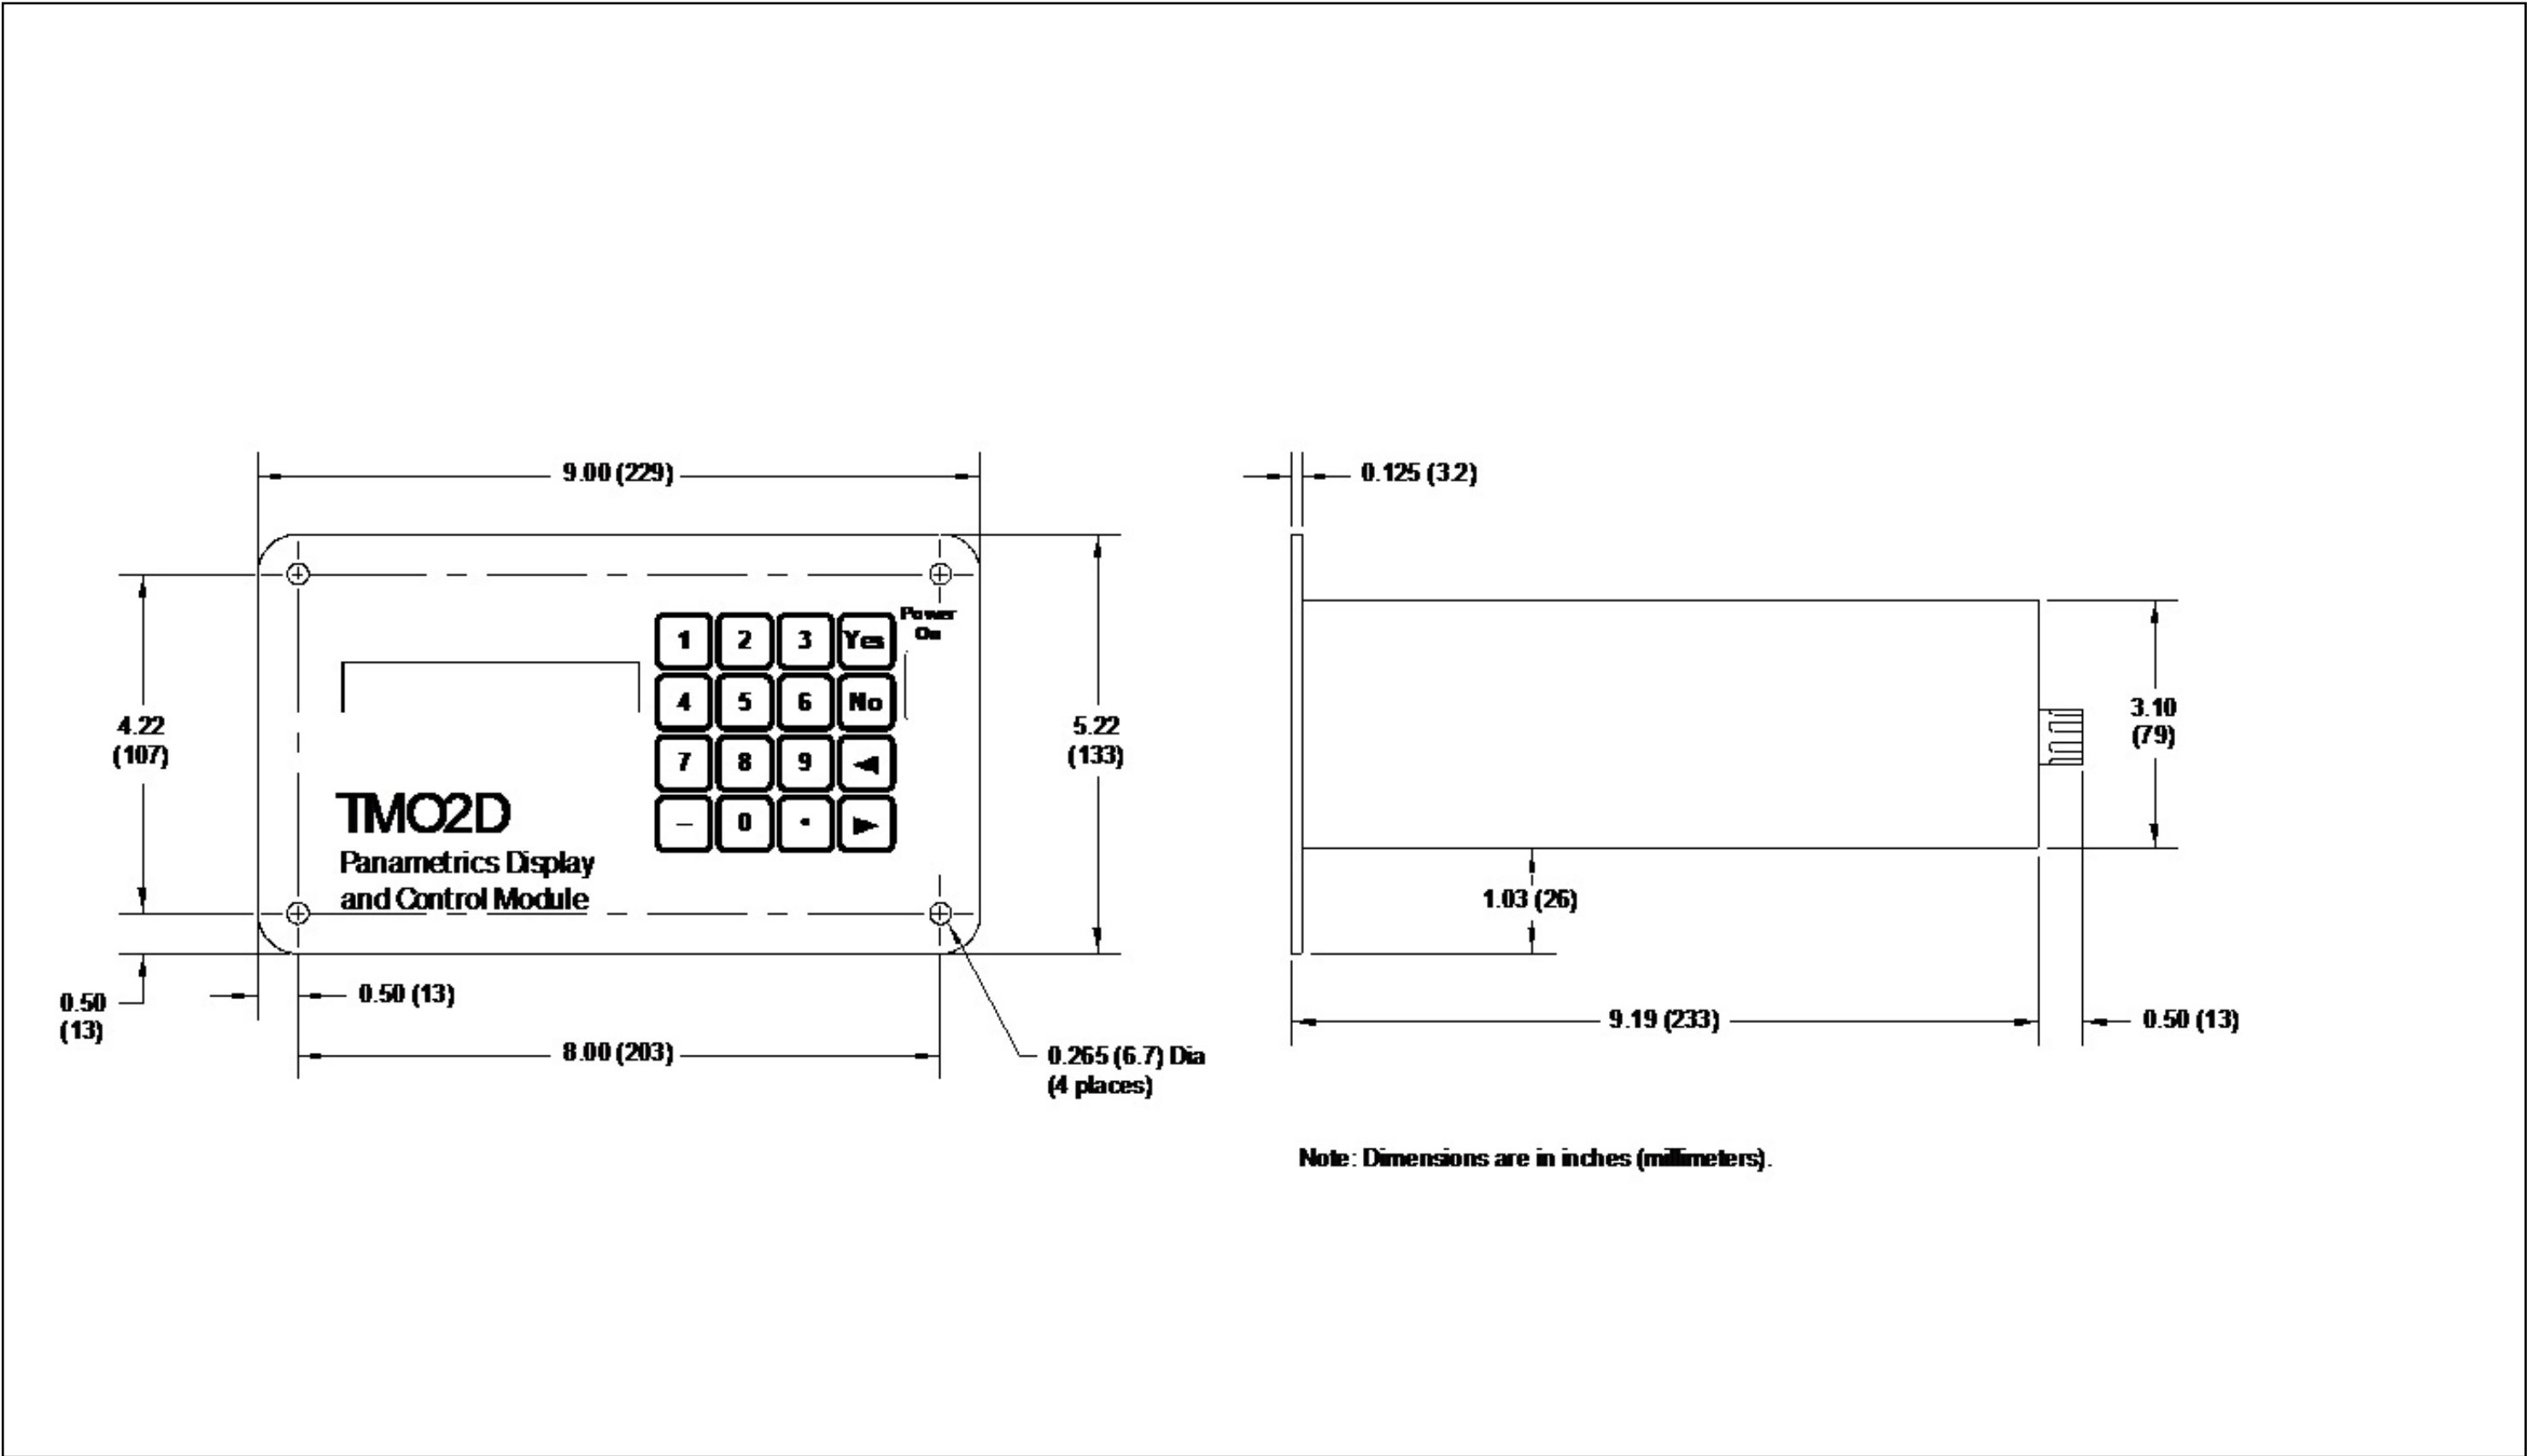

Figure 18: Panel Mount Outline (ref. dwg #712-222)
- *Figure 18:* Panel Mount Outline